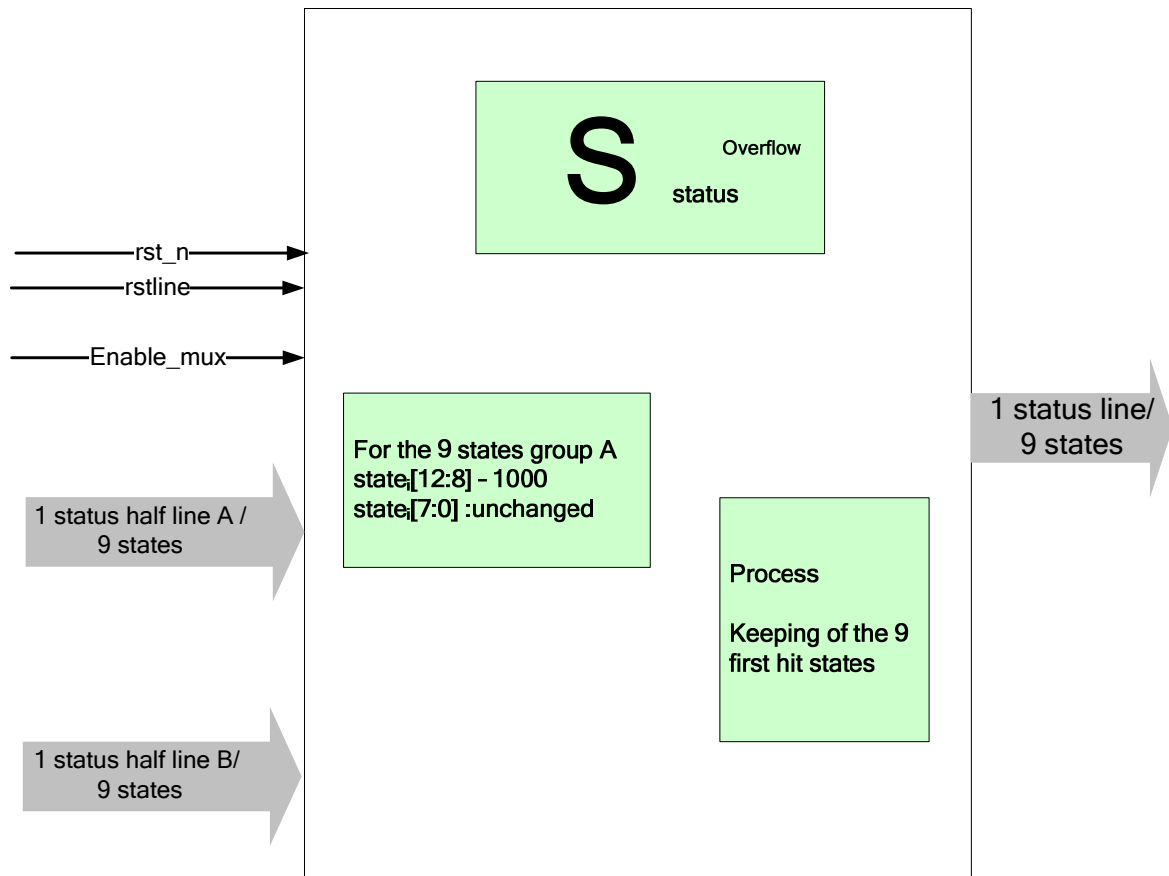

Figure 13: Module 6 x 9 → 9 top view
- The writing process is realized by the writing of word of 2x16 bits. In order to reduce the useful memory space (see Figure 13), if the last word of 16 bits is not written (in case of even number of hit states in the current row), next row processing status is written in that location.